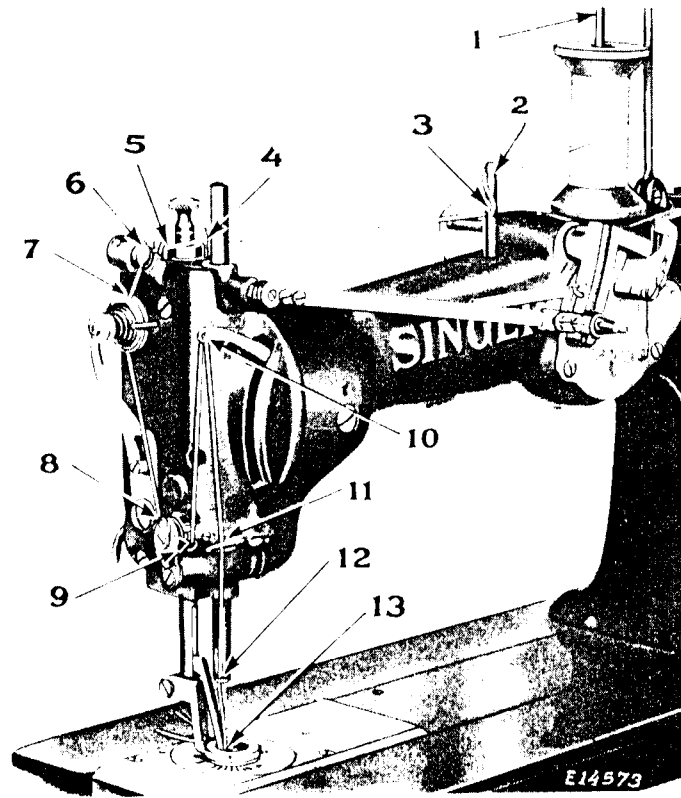

Fig. 9. Upper Threading
Place the spool of thread on the spool holder (1, Fig. 9) at the top of the machine, pass the thread through the hole (2), down
Let the thread take-up lever (10, Fig. 9) rest at its highest position, raise the presser foot and draw the fabric back and cut the threads close to the goods. Leave the ends of the threads under the presser foot.